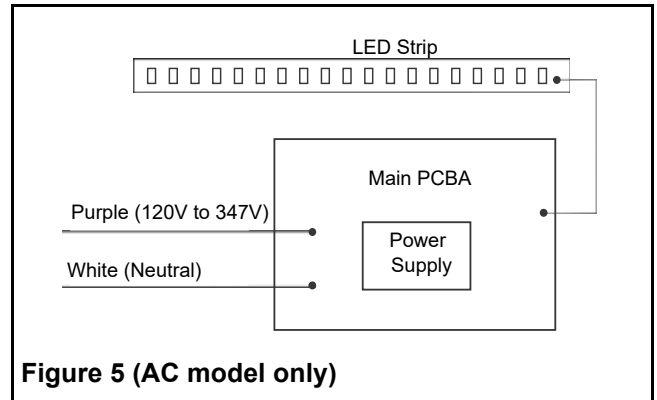
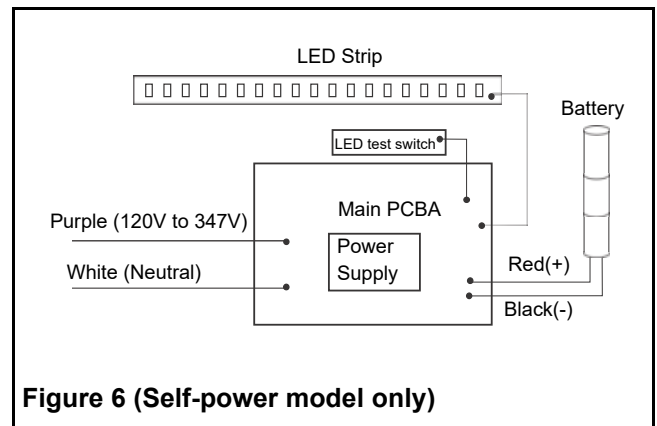

Figure 5 (AC model only)
Figure 6 (Self-power model only)
5. Make the proper wire connections: (Fig. 5 AC) or (Fig. 6 self-power)
8. Make the proper wire connections: (Fig. 5 AC) or (Fig. 6 self-power)